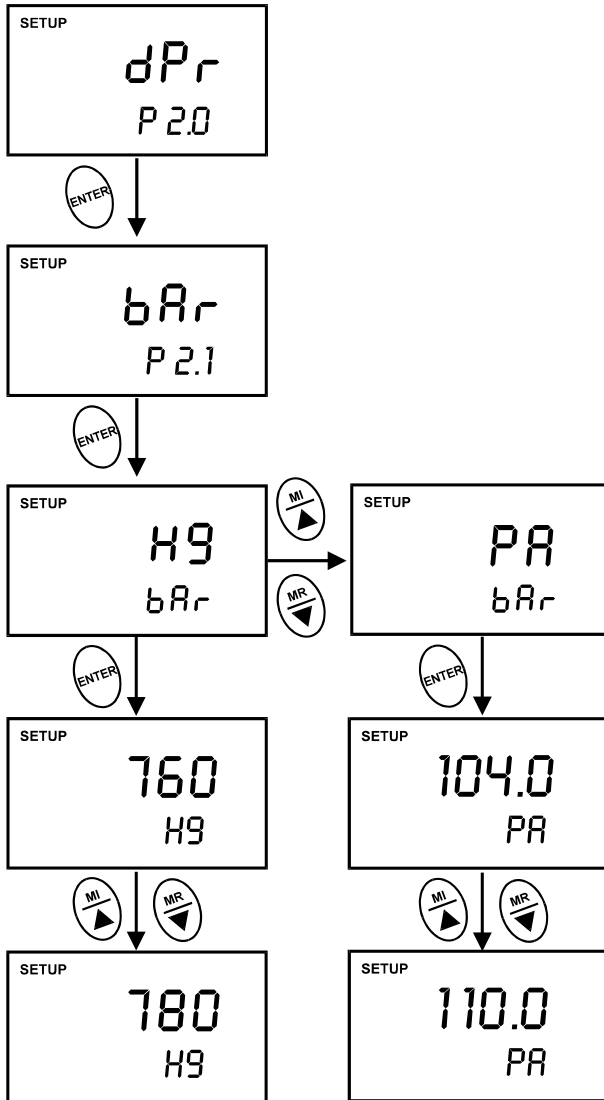

Figure 18: Change pressure units (mm Hg or kPa) & adjusting its values
3. Press the ENTER key twice. The upper display shows either “Hg” (mm Hg) or ‘PA” (Kilo Pascal) and the lower display shows “bAr”. See Figure 18 on page 22.